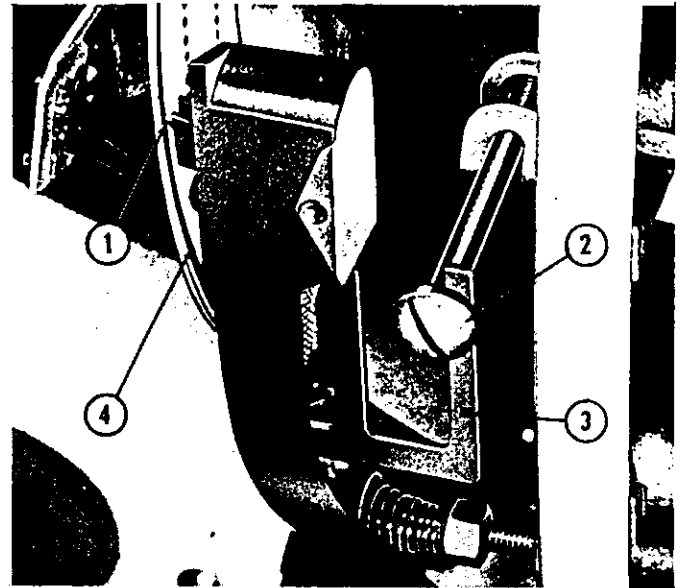

Fig. 88. TONE ARM FEED-IN ADJUSTMENT
(4) The record clamp setting, described in step (2) may be varied to minimum, if necessary, to accomplish the requirements of step (3).
s. Tone Arm Feed-in Adjustments. (Fig. 88)
(3) Manually advance the cycle by turning the record changer motor counter-clockwise until the pick-up needle is close to or touching the record disc. The tone arm latch bracket (Item 3, Fig. 88) should still be engaged with the feed-in screw (Item 2).